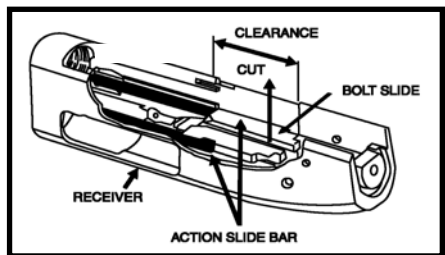

Figure 5
**Mossberg:** Align the bolt slide with the cut out in the receiver by moving the forend and the action bars back and forth. Remove the bolt slide upward. Pull the forend and action bars forward & remove from the magazine tube. (Fig. 5)